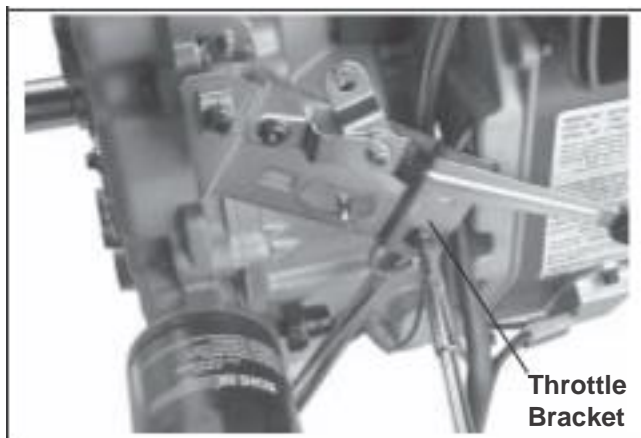

Figure 11-54. Installing Throttle Bracket.
1. Install the throttle bracket assembly to the crankcase with the two mounting screws. If a rectifier-regulator ground lead (plastic blower housing models) was also secured, position it behind the throttle bracket on the lower screw. See Figure 11-54.